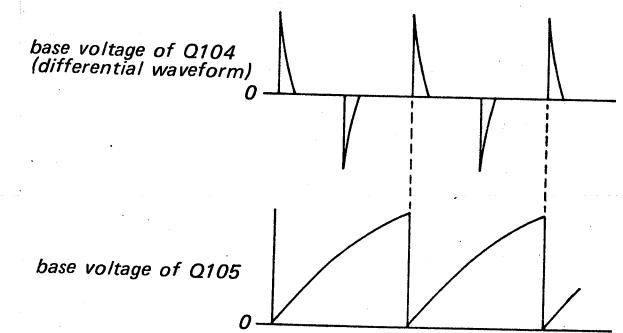

Fig. 2-3.
2. With the arrival of the non-positive part of the differential waveform, Q104 is turned OFF. Consequently, C107 charges up again in the manner shown in Fig. 2-3.